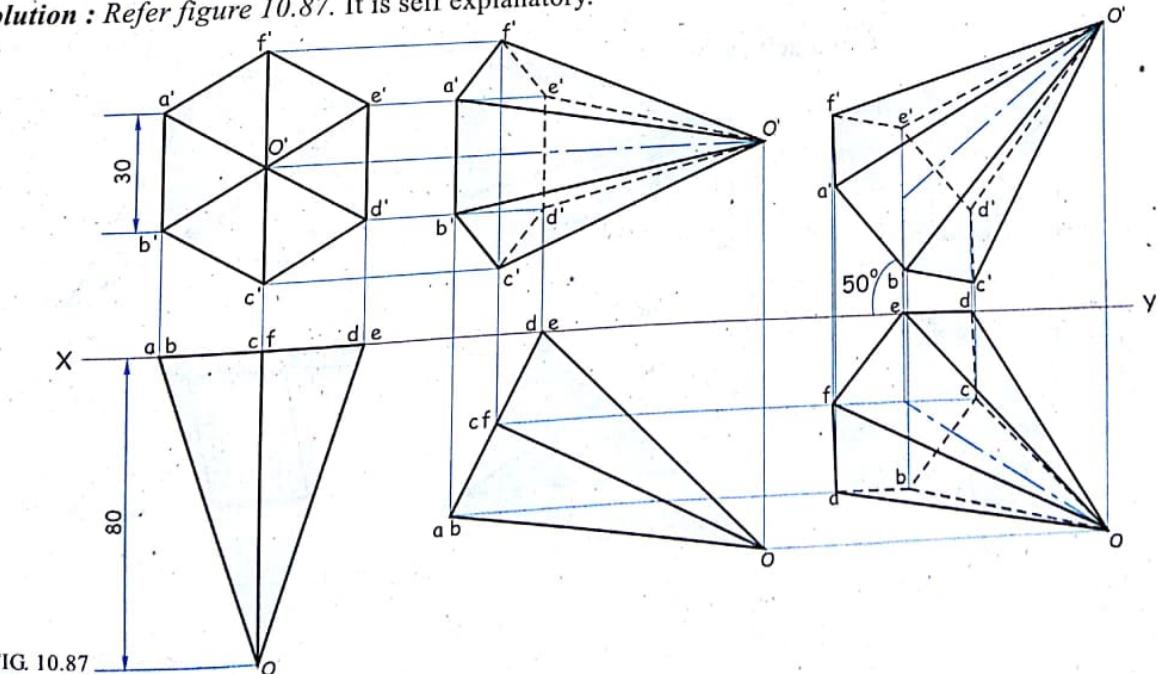

FIG. 10.87
**Solution :** Refer figure 10.87. It is self explanatory.